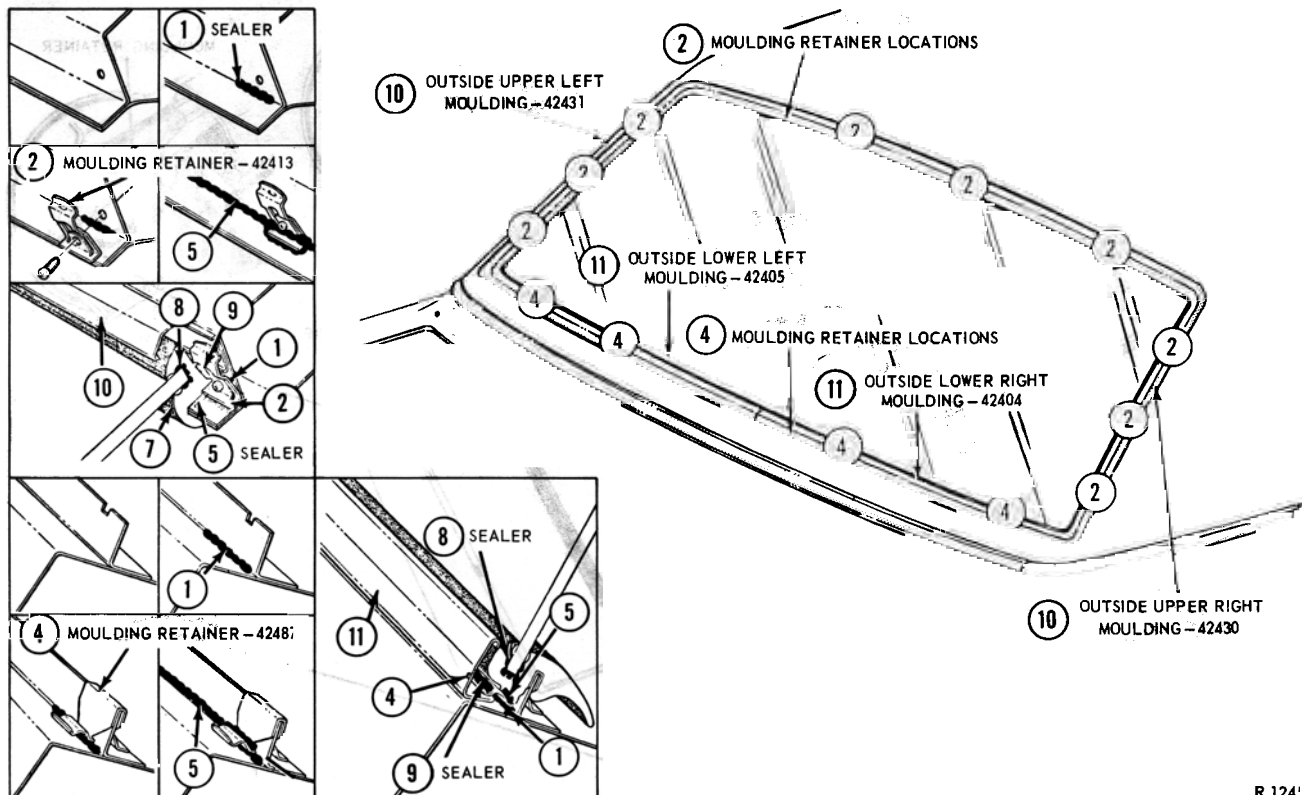

FIG. 21—Back Window Installation—Comet, Falcon, Fairlane
1. Using Tool T64-P42430-R or L, release the outside upper mouldings (Fig. 21), from their moulding retainers and remove the outside upper mouldings.